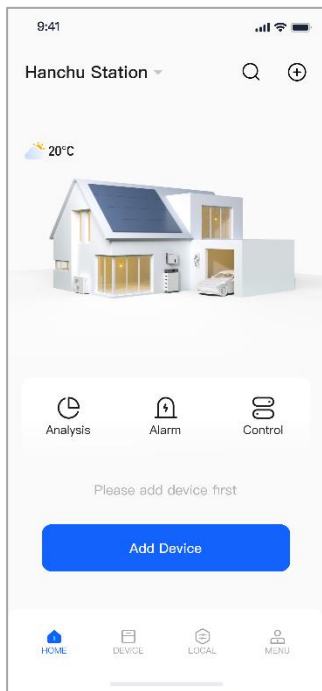

Figure 12
- Please tap the "**Add Device**" button, as shown in Figure 12. Then you can directly turn to "**4.2.2.2 Network configuration**".